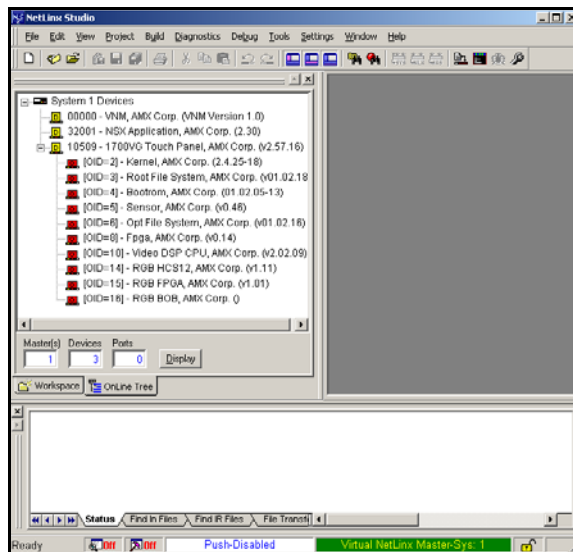

FIG. 78 Using USB for Virtual Master communication
4. Right-click on the System entry (A in FIG. 78) and select **Refresh System** to re-populate the list. This causes a refresh of all project systems, establishes a new connection to the Virtual Master, and populates the System list with devices on your particular system.